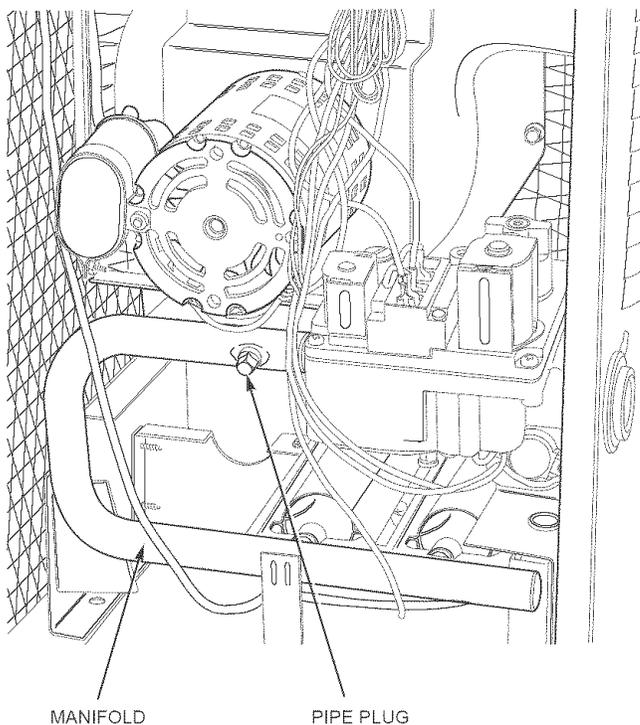

Fig. 19 — Burner Assembly
2. Remove pipe plug on manifold (see Fig. 19), then connect manometer at this point. Turn on gas to unit.
2. Remove pipe plug on manifold (see Fig. 19), then connect manometer at this point.